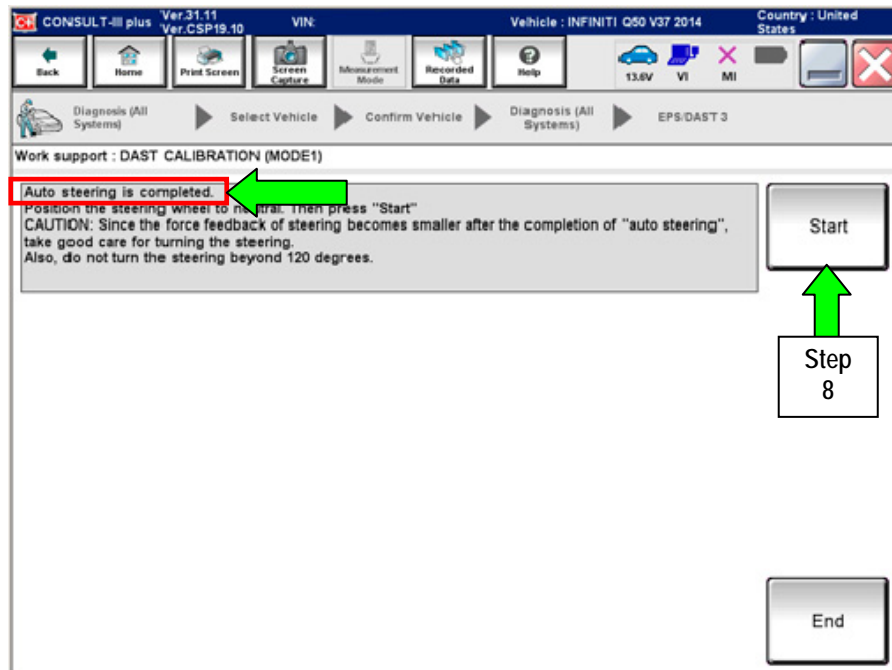

Figure 3
- When Auto steering has completed, center the steering wheel to the neutral (straight ahead) position, and then select **Start** again (see Figure 3).